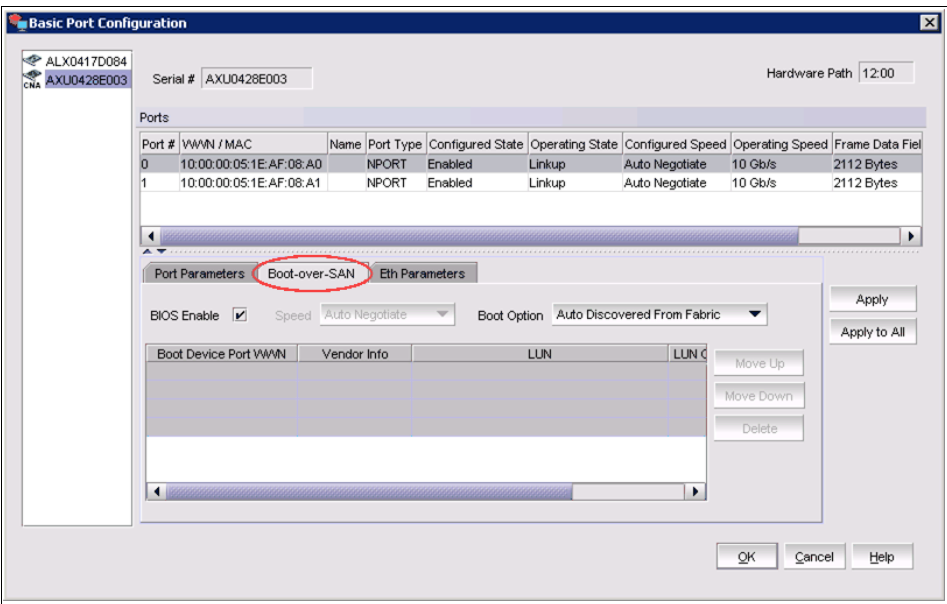

Figure 10-25 Boot over SAN View
2. Click the **Boot-over-SAN** tab. The Boot-over-SAN dialog box displays (Figure 10-25).